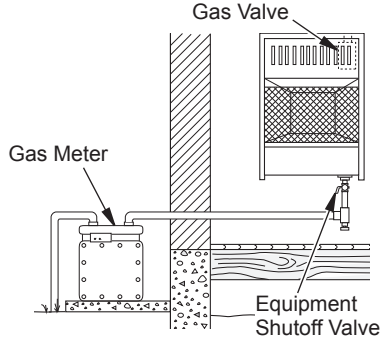
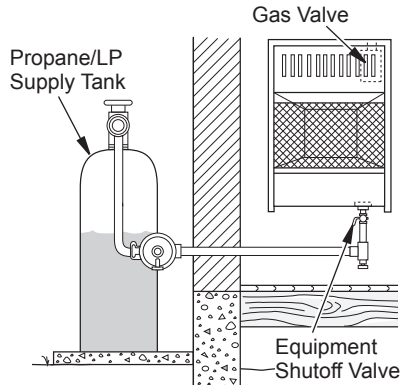

Figure 18 - Natural Gas Supply
Figure 19 - Propane/LP Fuel Supply
3. Check all joints from gas meter (natural gas installations, see Figure 18) or from propane/LP tank (propane/LP gas installations, see Figure 19) to equipment shutoff valve. Apply a noncorrosive leak detection fluid to all joints. If bubbles form, there is a leak.
4. Check all joints from equipment shutoff valve to control valve (see Figure 18 or 19). Apply a noncorrosive leak detection fluid to all joints. Bubbles forming show a leak.